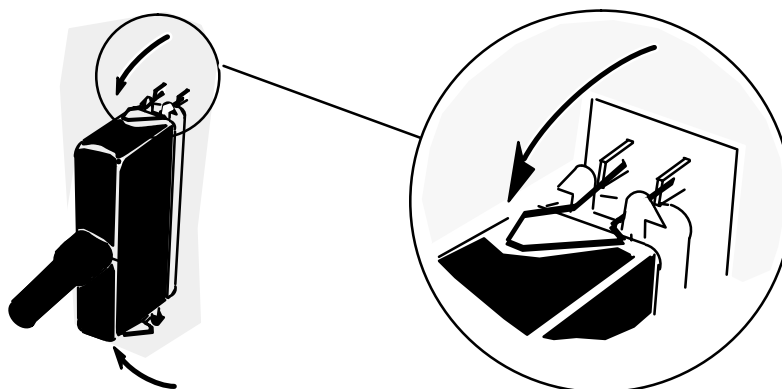

Figure 4-10 Securing a SCSI Cable Connection
4. Push the spring clips attached to the rear panel connector straight down or straight up into the brackets on the cable connector as shown in Figure 4-10.